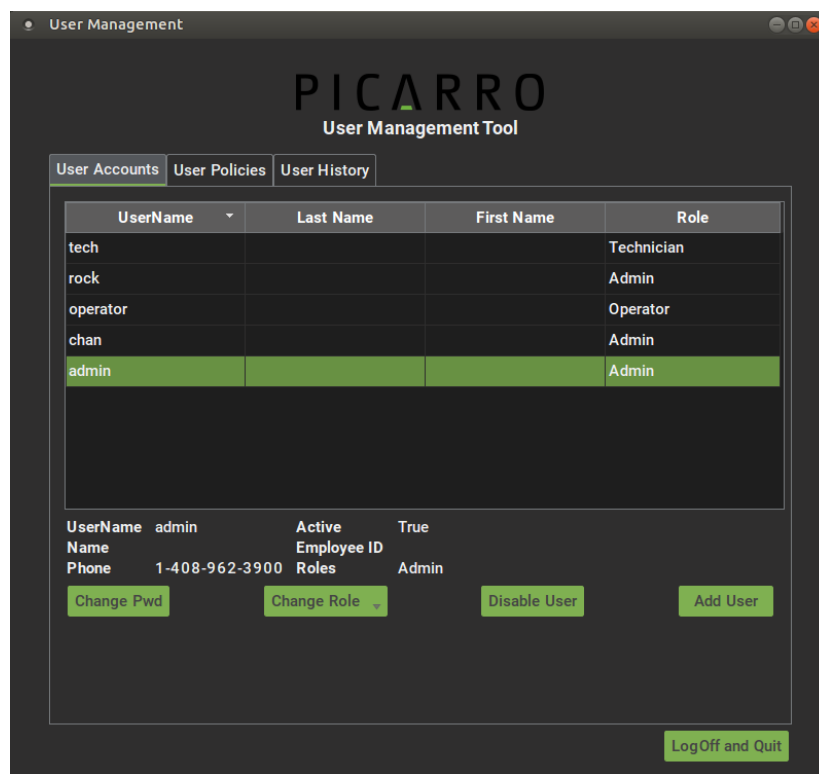

Figure 49: User Management/User Accounts Tab
3. From the **Tools** menu, select **User Administration** to view the User Management as shown in Figure 49.